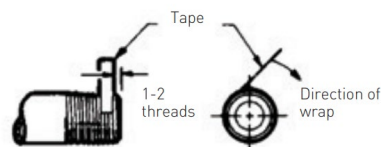

FIGURE 1
2. Mount upper and lower gaugecocks to vessel using PTFE tape, or equivalent, on all male pipe thread connections as shown in Figure 1.